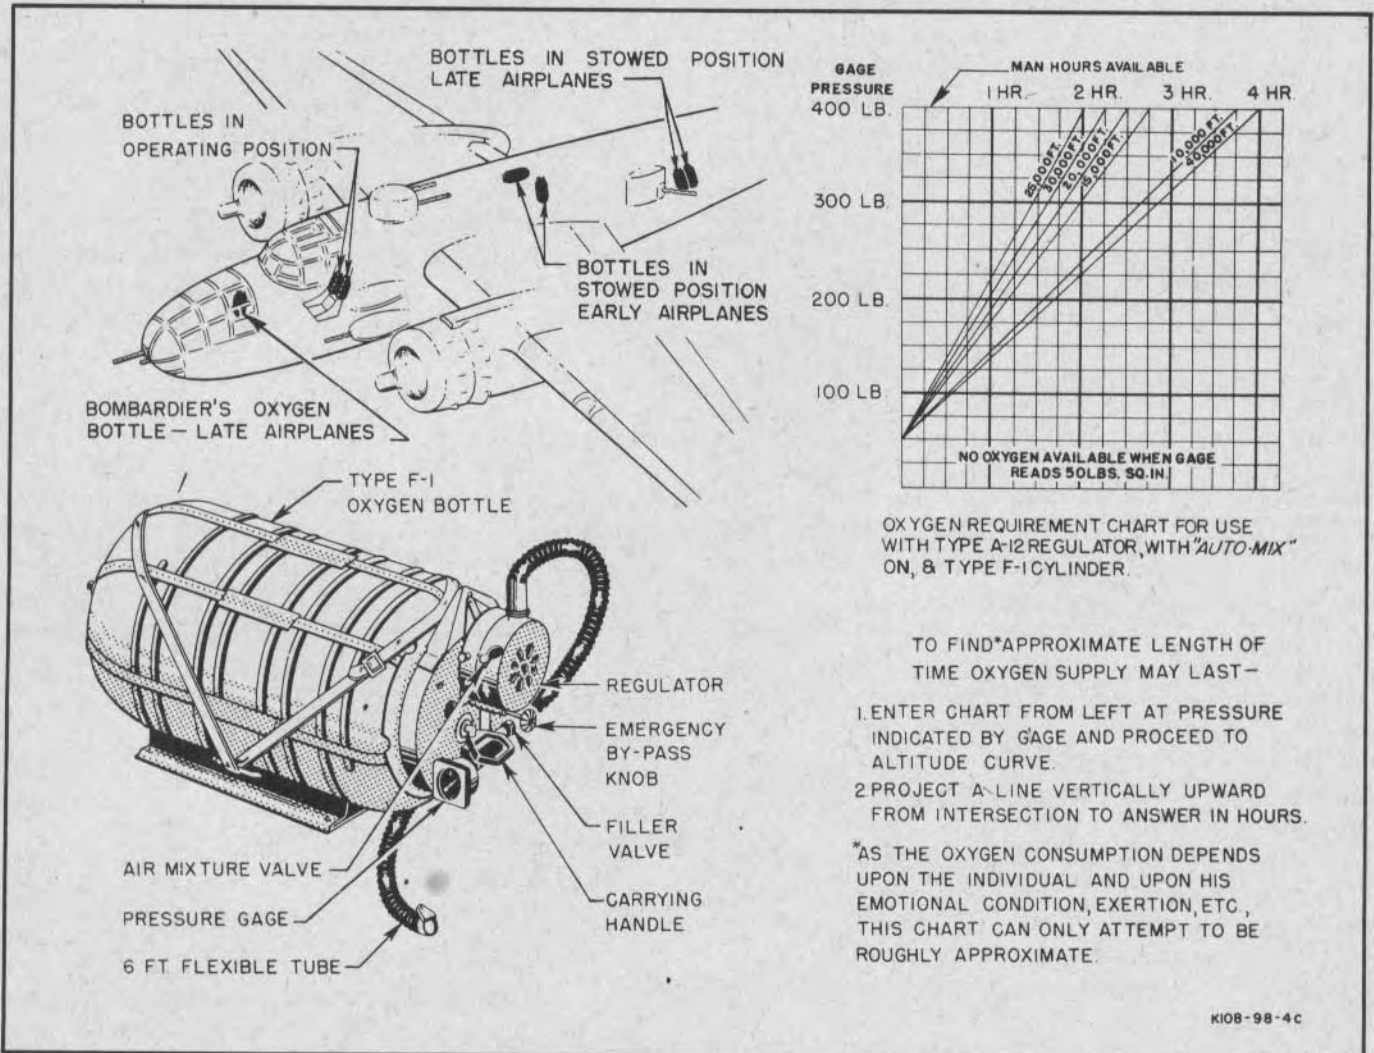

Figure 58—Portable Oxygen Unit
(1) The airplane is equipped with portable oxygen units. (See figure 58.) In operating position, the oxygen units are supported in canvas sacks attached to the back of the pilot's seat. On late airplanes, one bottle is located behind the pilot's seat and one behind the copilot's seat, and an additional unit is mounted in the bombardier's compartment.